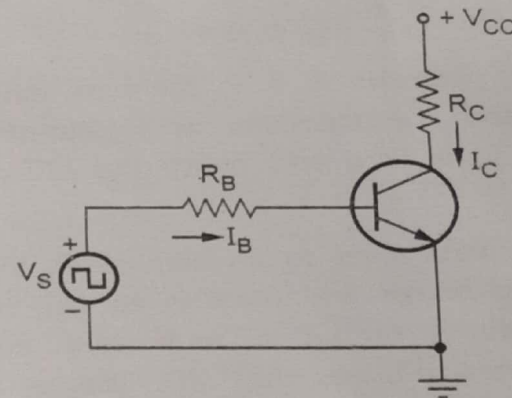

Fig. Q.77.1
Q.77 For switching circuit shown in Fig. Q.77.1 has $V_{CC} = 12 \text{ V}$, $I_C = 1.5 \text{ mA}$, $h_{FE(min)} = 10$ and $V_S = +5 \text{ V}$. Determine suitable resistances for R_B and R_C